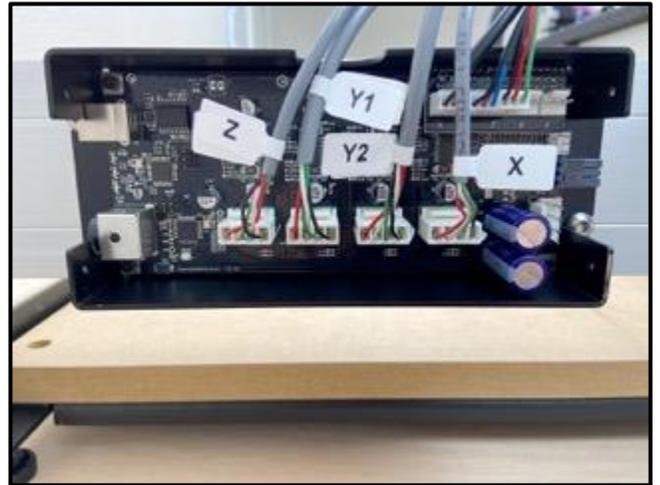

Figure 8-8
1. Plug the 4-pin stepper motor extension cables labeled “Z,” “Y1,” “Y2,” and “X” into their respective ports along the bottom of the controller board. Be sure to match the labels on the cable with those of the board. See **Figure 8-8**.
3. Use the 2mm hex key, one (1) M3x6mm flanged button head screw and the three (3) thumb screws to re-install the controller unit cover.